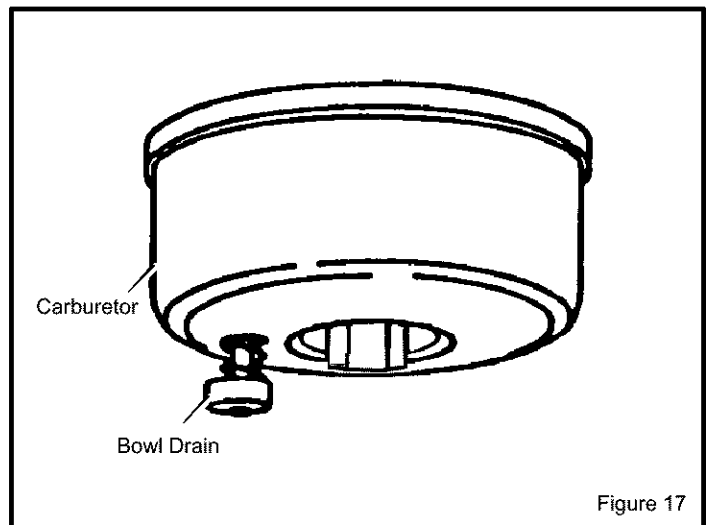

Figure 17
1. To remove gasoline, run engine until tank is empty and engine stops. Then drain remaining gasoline from carburetor by pressing upward on bowl drain located on the bottom of carburetor (see Figure 17).